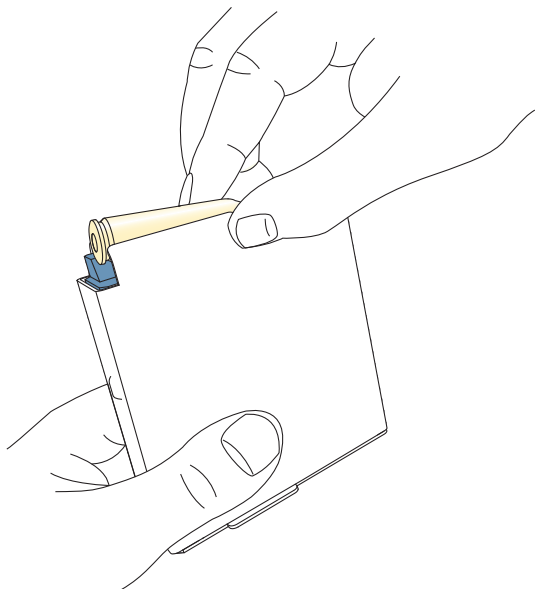

Fig 4-1
- Put the first round onto the top of the empty magazine (see Fig 4-1).